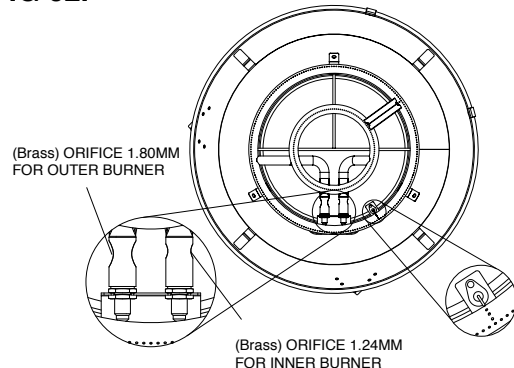

FIG 03.
- D. After the replacement, properly locate and re attach the burner kit with respect to the orifices. Adjust the igniter tip located near the burner edge. (FIG. 03)